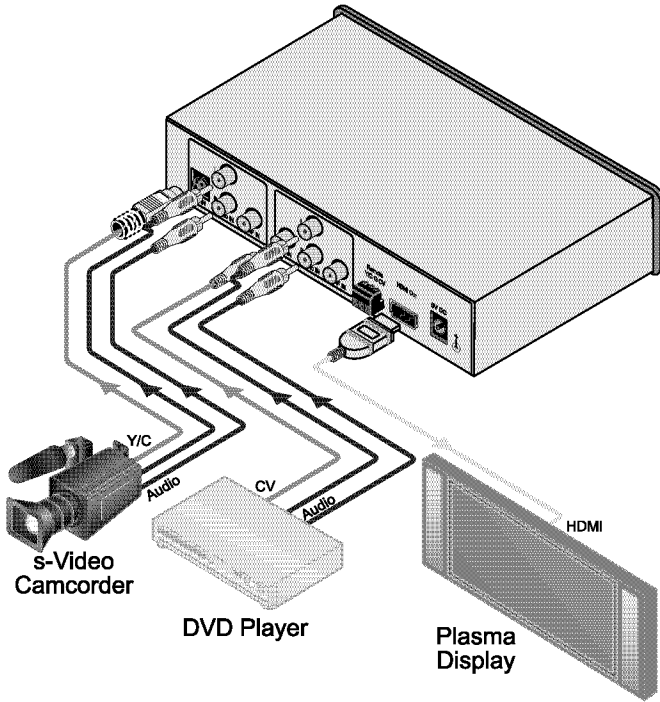

Figure 2: Connecting the VP-418xl Video to HDMI Scaler
To connect your **VP-418xl**, as the example in Figure 2 illustrates¹, do the following²:
6. Connect the 5V DC power adapter to the power socket and connect the adapter to the mains electricity (not shown in Figure 2).